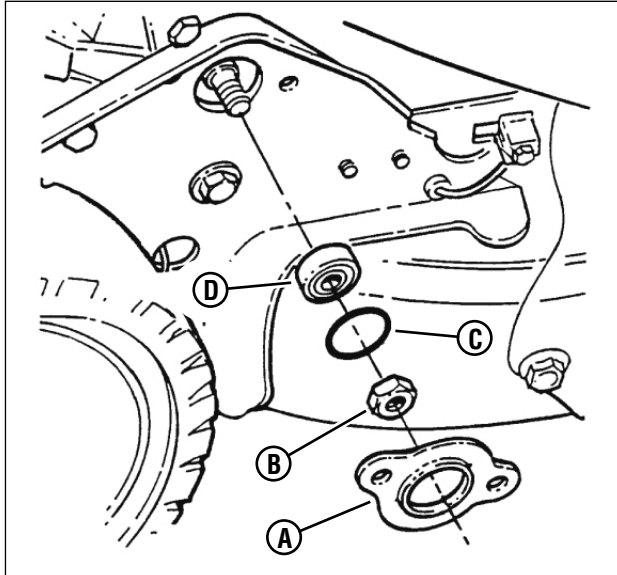

Figure 34: Replacing the hex shaft bearing
2. Remove the 3/8" hex lock nut (B, Figure 34), located on the outside of the right wheel bracket.
3. Remove the holder (A), O-ring (C) and bearing (D).